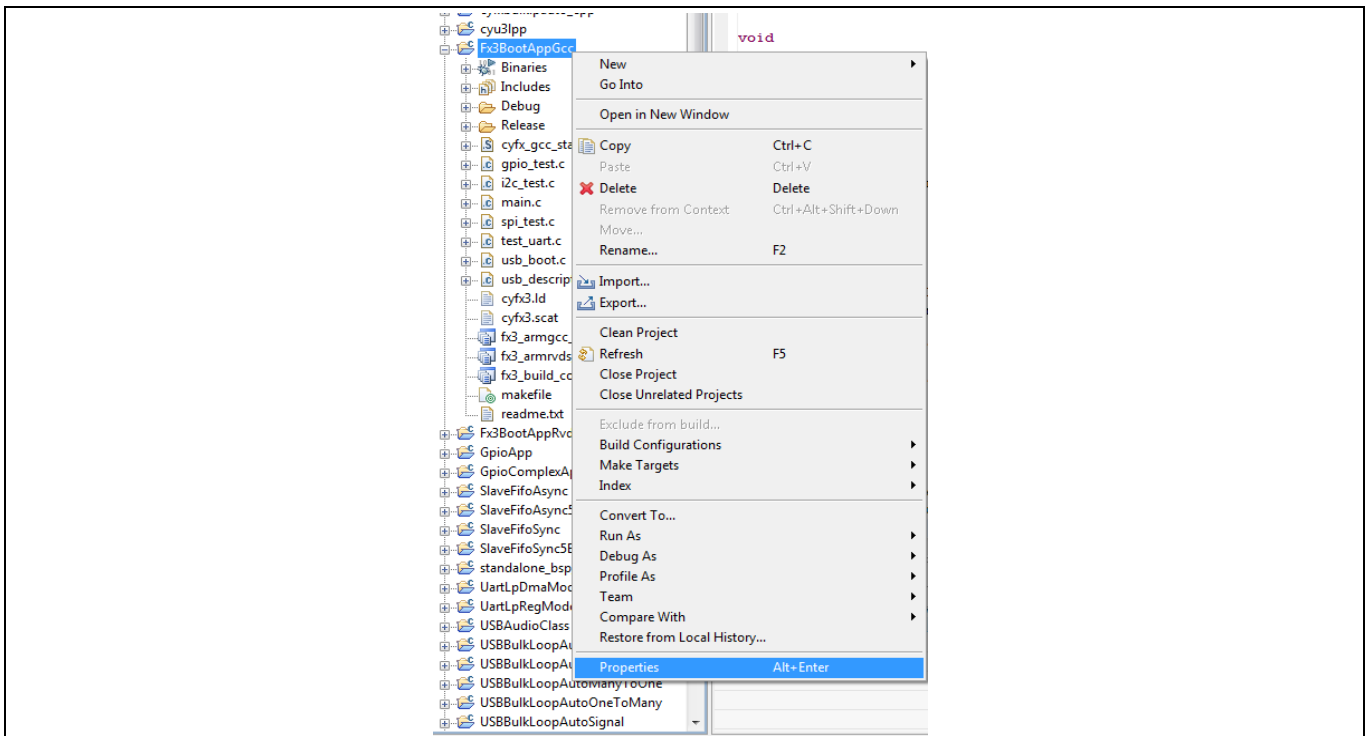
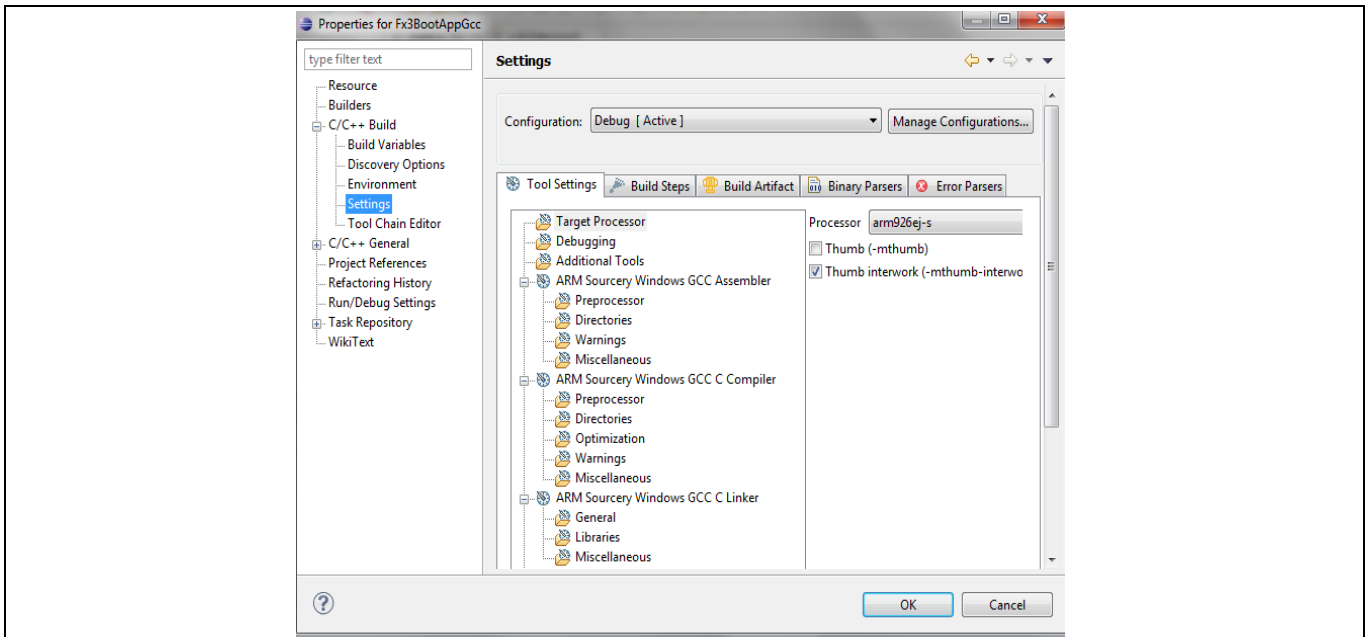

Figure 19 Right-click on project in Eclipse IDE
Figure 20 Properties of FX3™ BootAppGcc
1. Build the firmware image in the Eclipse IDE as shown in Figure 19, Figure 20, and Figure 21.